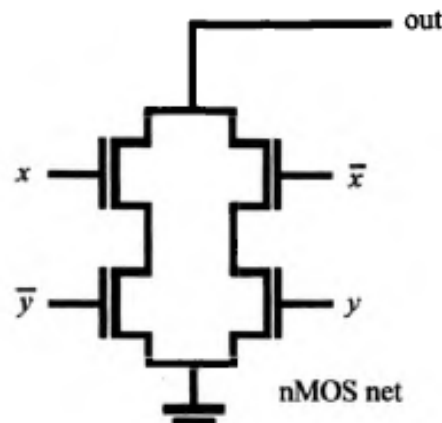

Fig. 5.2
1. Derive the nMOS transistor topology with four transistors, one per literal in the Boolean expression. The transistors driven by  $\bar{x}$  and  $y$  are connected in series, as well as the devices driven by  $x$  and  $\bar{y}$ . These transistor groups are connected in parallel, since they are additive in the Boolean function. The signals and their complements are generated using inverters (not shown). The nMOS transistor net is shown in Fig. 5.2.